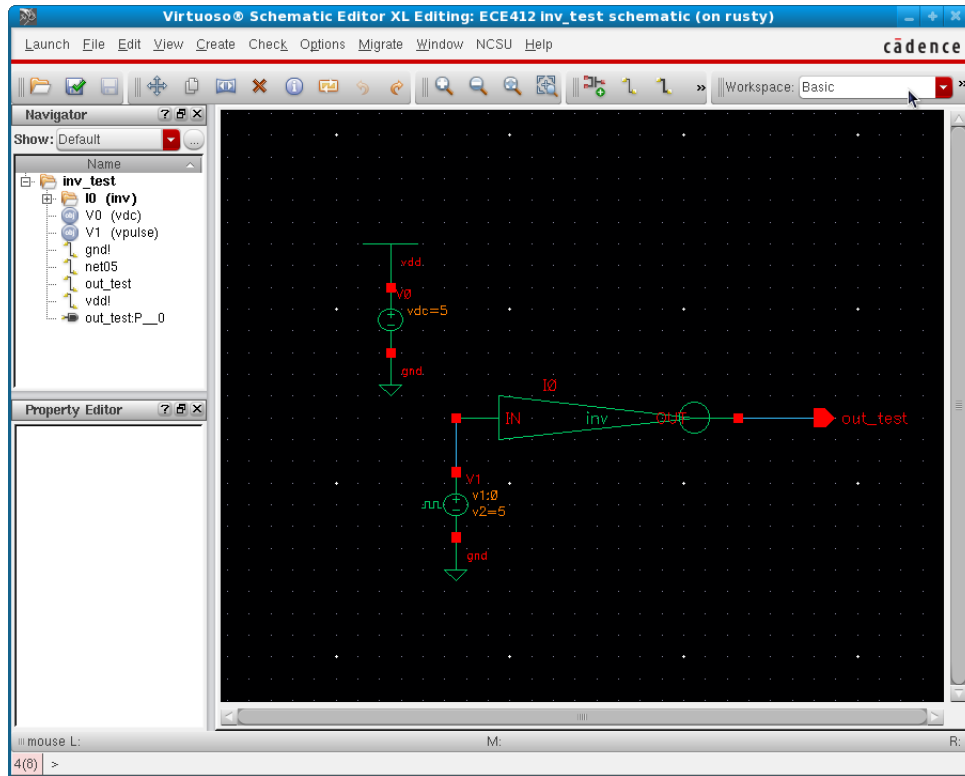

Figure 9: Inverter Test Circuit
5. Verify that you have a power supply with a valid DC voltage (`vdc`), a valid input signal (`vpulse`), a valid output monitor (`pin`) e.g. shown in figure 9